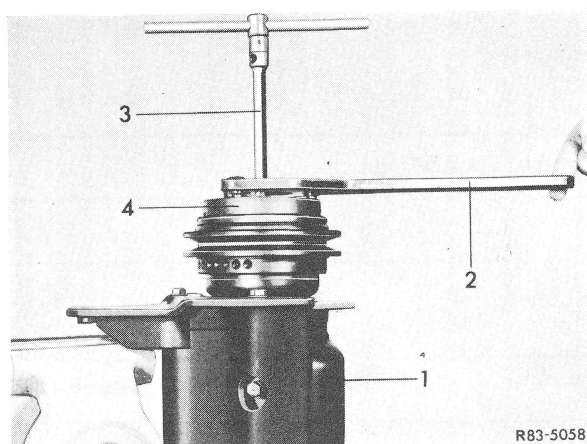
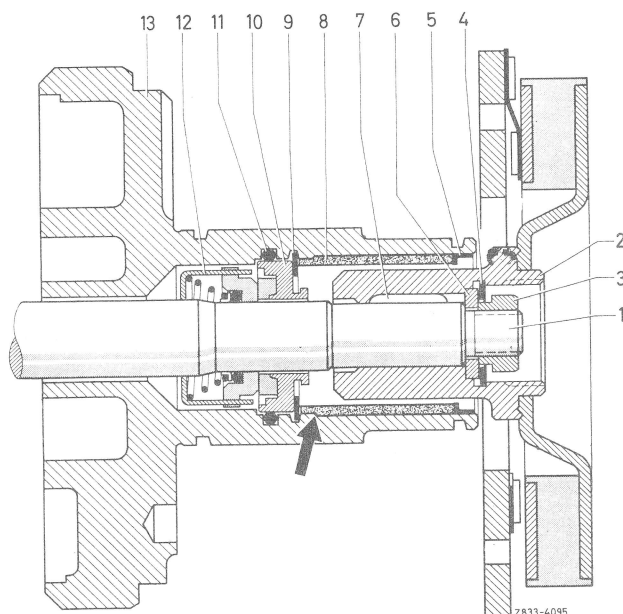

Figure 1
Figure 5
1 Clamp removed compressor with bracket into vice (Fig. 1), without bracket into compressor holding fixture.
2 Prevent rotation of spring plate (4) by means of holding tool (2), use 14 mm socket to remove counter nut from shaft (Fig. 1).
13 Fit spacer (6) into hub of spring plate (2) and place locking ring (4) with its flat side facing the spacer (6) (Fig. 5).
spacer (6) (Fig. 5). Hold spring plate in position with holding tool (2) and tighten counter-nut. The clearance between the two friction surfaces of the pulley and the spring plate should now amount to 0.5 to 1.5 mm (Fig. 1 and 6).
- 1 Remove spring plate (refer to section a, item 1 to 5).
- 2 Remove locking ring (2) and retaining ring (5) (Fig. 5 and 7).
- 2 Remove retaining ring (5) and felt ring (8) (Fig. 5 and 11).
- 3 Remove locking ring (9) for shaft seal (Fig. 5 and 12).
- 4 Remove slip ring (3 and 9) using remover/installer (2) (Fig. 5 and 13).
- 5 Remove shaft seal (2 and 11) using tool (3) (Fig. 5 and 14). For this purpose, press tool down and twist clockwise to engage tabs on shaft seal with locking tangs on tool. Remove seal completely by pulling seal straight off the shaft.
- 6 Remove O-ring (11) from inside bore in front head of compressor. A length of wire bent to form a hook may be used for this purpose (Fig. 5 and 11).
8 Install new O-ring (11) into groove in bore of head (13), making sure that the sealing ring is fitted into the lower groove (Fig. 5).
10 Insert shaft seal (2 and 12) into tool (3) and push onto compressor shaft. Turn tool right until the shaft seal snaps into position on the shaft. Now turn tool left to disengage from shaft seal tabs and remove (Fig. 5 and 14).
11 Install slip ring (3 and 10) into bore of front head using tool (2) until ring touches shaft seal. Make sure that the O-ring (11) is not displaced from its groove (Fig. 5 and 13).
12 Insert locking ring (9) into bore with the flat side facing downwards until the locking ring rests against the sliding ring (Fig. 5 and 12). Then use snap ring pliers or screw driver to press against the locking ring until ring snaps into place in the groove.
Note: The step (see arrow) which is visible from the end of the bore is not a groove but a projection (Fig. 5).